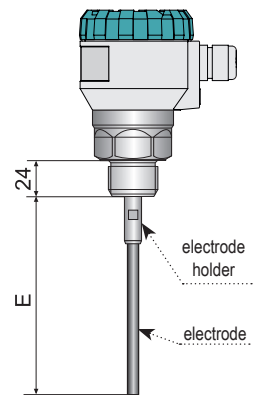

Fig. 30: Drawing of the level meter with size "E"
1. Prepare the measuring electrode based on fig. 30. The length of the electrode must be 7 mm shorter than the dimension „E” in figure 30. Use stainless steel 1.4404 (AISI 316 L) or similar material for the electrode depending on the application.